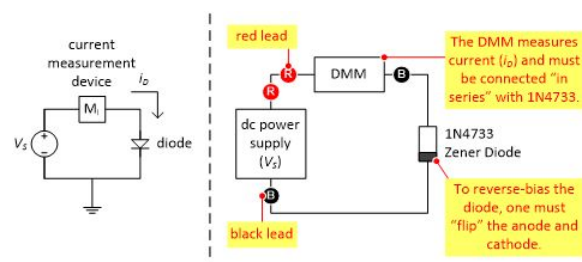

Fig 1: Test Circuit required to measure current flow through 1N4733 Diode
Step 4: Measure the current conducted by diode while both forward and reverse biased using the digital multi-meter (DMM). The schematic shown in Figure 1 demonstrates how this may be done.